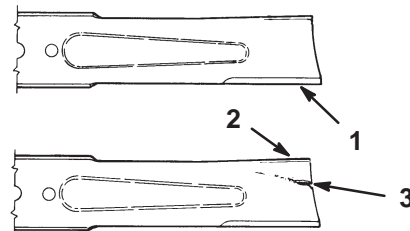

Figure 33
1. Inspect the cutting edges (Fig. 33). If the edges are not sharp or have nicks, remove and sharpen the blades; refer to Sharpening the Blades, page 32.
2. Inspect the blades, especially the curved area (Fig. 33). If you notice any damage, wear, or a slot forming in this area (item 3 in Fig. 33), immediately install a new blade.